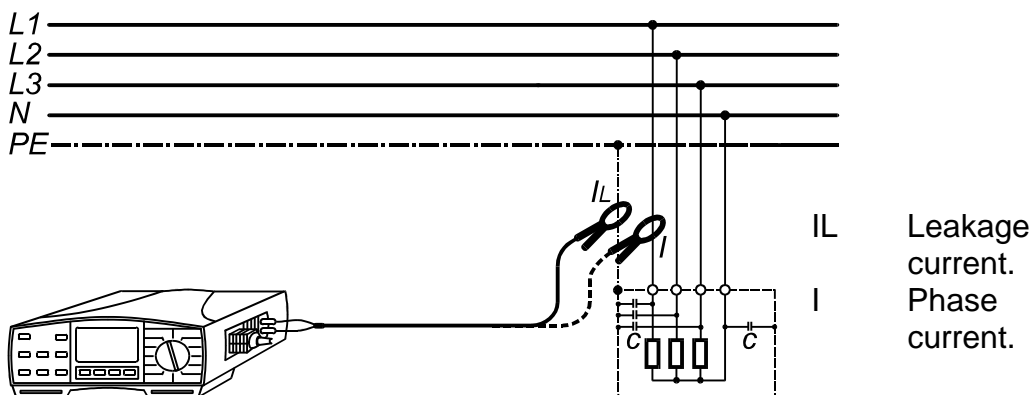

Fig. 27. Connection of test clamp
- Connect current / current (1000:1) test clamp to Earth - Insulation Tester, see the figure 27. Be aware that low-range test clamp, supplied by METREL, can cover the range 0,5 mA up to 200 A, while standard-range test clamp can measure within 10 mA and 200 A.